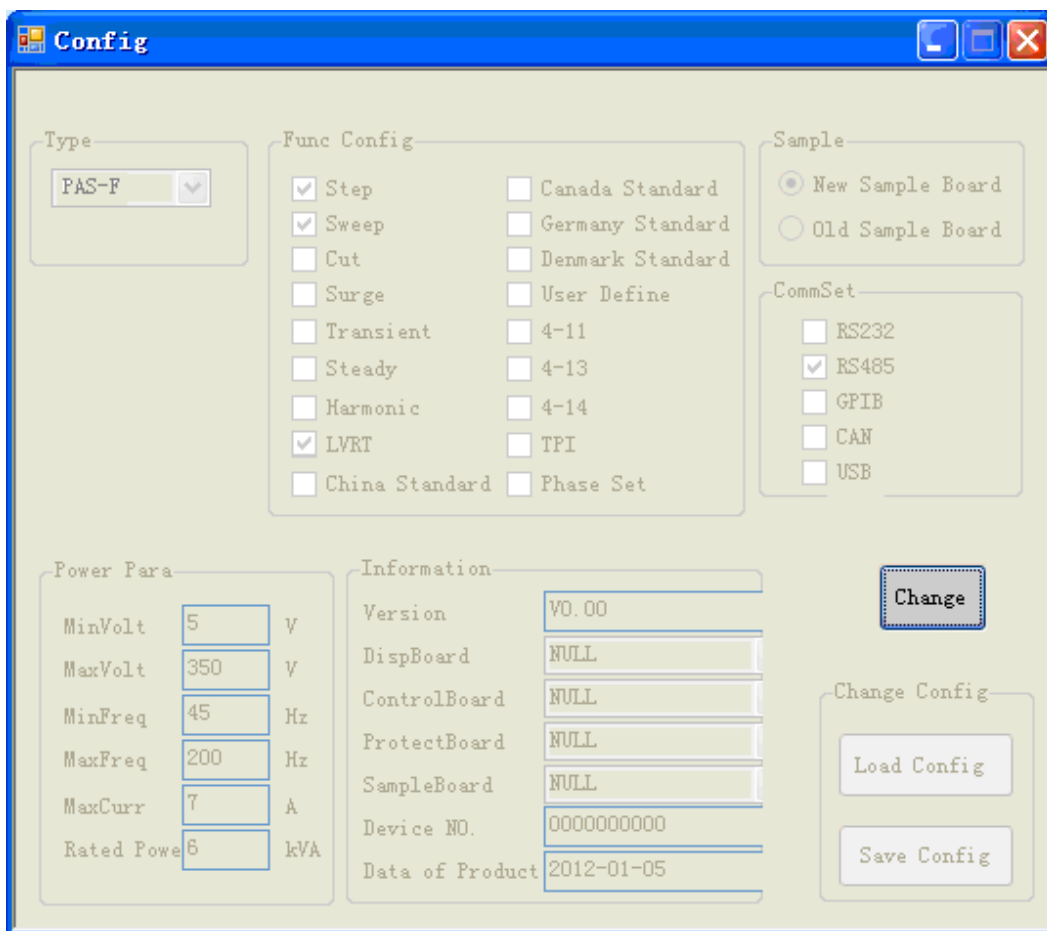

Fig. 5-16 Menu of “System config” under remote control
(3) In the menu of “System setting”, click on **【System config】** , as shown in fig. 5-16: